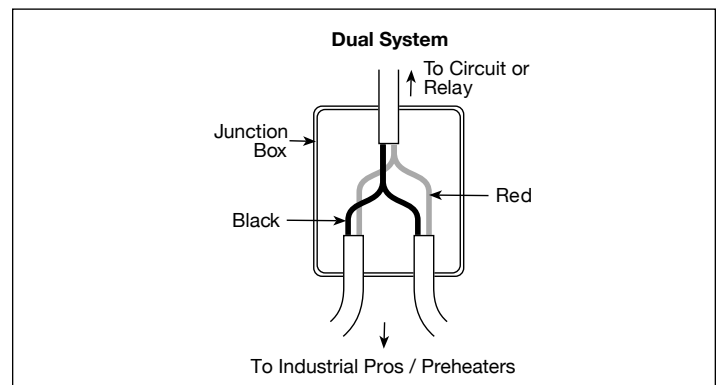

Figure 14 - Wiring Dual Filter Systems
**Note:** For systems with multiple Industrial Pro® units, the pre-heater power supply wiring must be split in the junction box. See Figure 14 for wiring a Dual system.